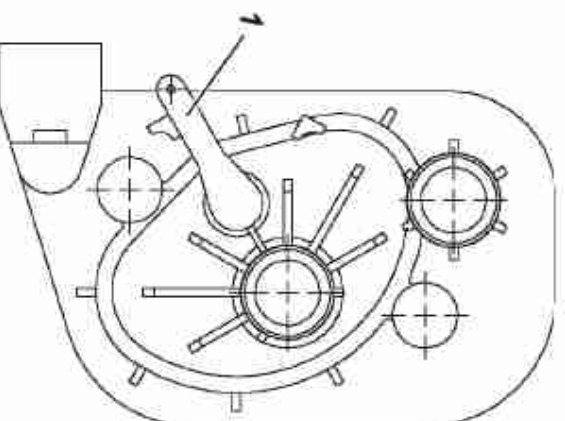

Fig. 3.13. Heater tap:
The tap of fluid supply cut-in to the heater radiator is located on the front body panel from the passenger side (under the instrument panel from the passenger side). It is controlled manually pos. 1 (see Fig. 3.13).